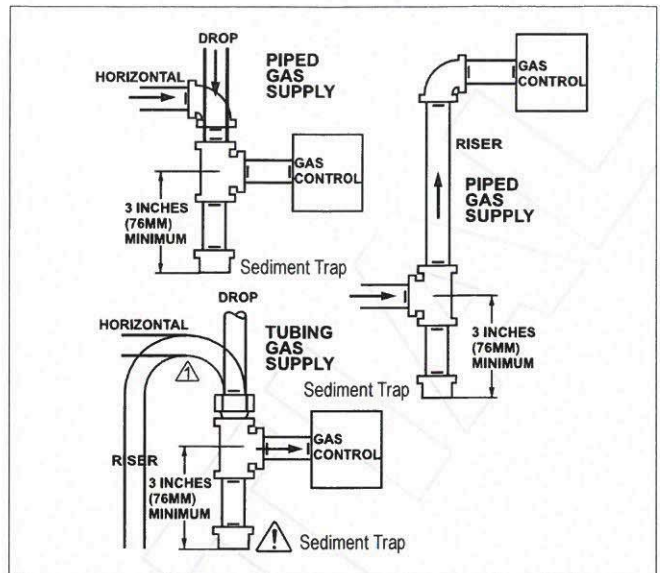

Figure 8: Sediment Trap (where required)
2. Install the sediment trap or filter (where required) in the gas supply line to prevent contamination of the gas valve (see figure 8).